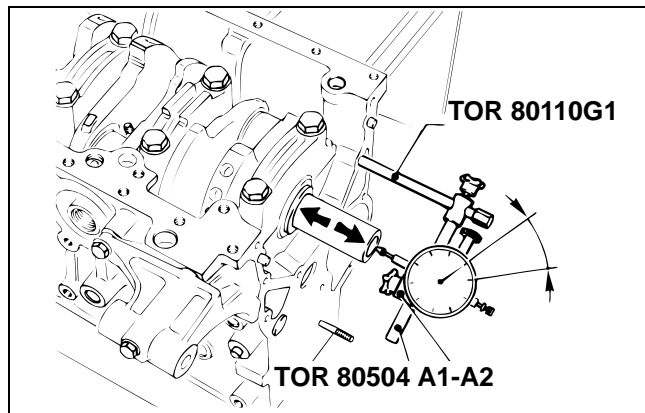

Figure 74
7. Check crankshaft end float (Fig. 74):